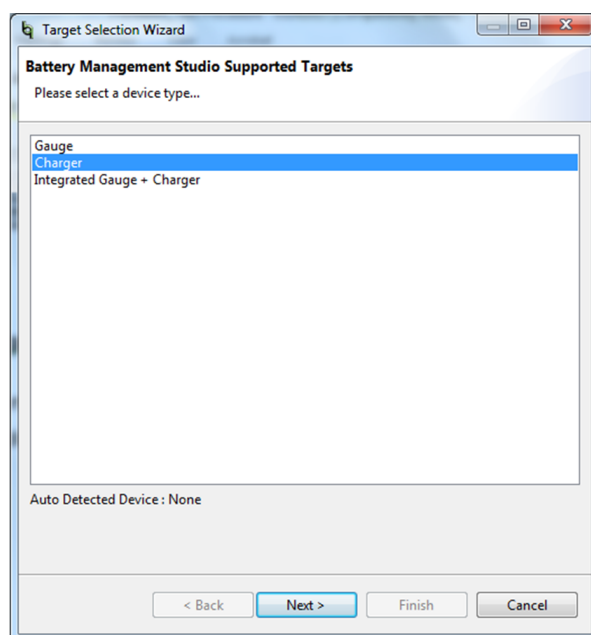
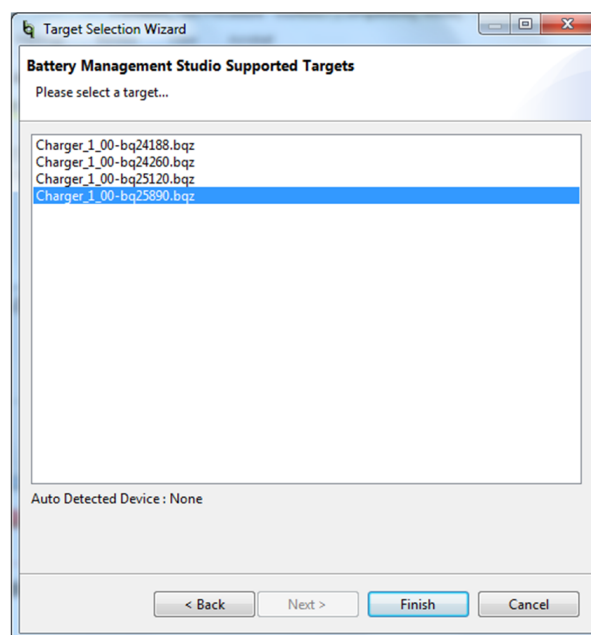

Figure 3. Start Window of the bq2589x Evaluation Software
Figure 4. Part Select Window of the bq2589x Evaluation Software
10. Turn on the computer. Launch the bq2589x evaluation software, choose *Charger* then *Charger_1_00-bq25890.bqz*, as shown in Figure 3 and Figure 4 .